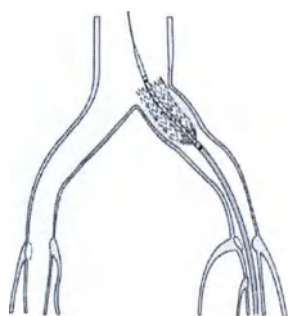

Fig. 7
5. As deployment occurs, continue sliding the handle (a) toward the hub (b) in a slow, smooth and consistent fashion. (Fig. 7)